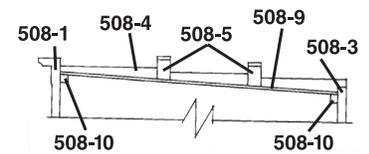

Fig. 3
1. Using Side Panel Material (white styrene strip), cut two Entry Door Side Panels (508-7) the same height as Entry Door (508-8) (**Fig. 3**).
The Roof (508-9) will be glued to the bottom of the four Chimney Backs. The Roof slopes downward from the front of the building to the rear (**Fig. 3**). The bottom of the Chimney Backs slope in the same direction. Chimney Backs (508-5) slope downward from left to right and Chimney Backs (508-6) slope the opposite way.
1. Install Roof (508-9) through bottom of building and glue to bottom of Chimney Backs (**Fig. 3**).
3. Glue one Roof Support to bottom of Roof and along Front Wall and one to bottom of Roof and along Rear Wall (**Fig. 3**).